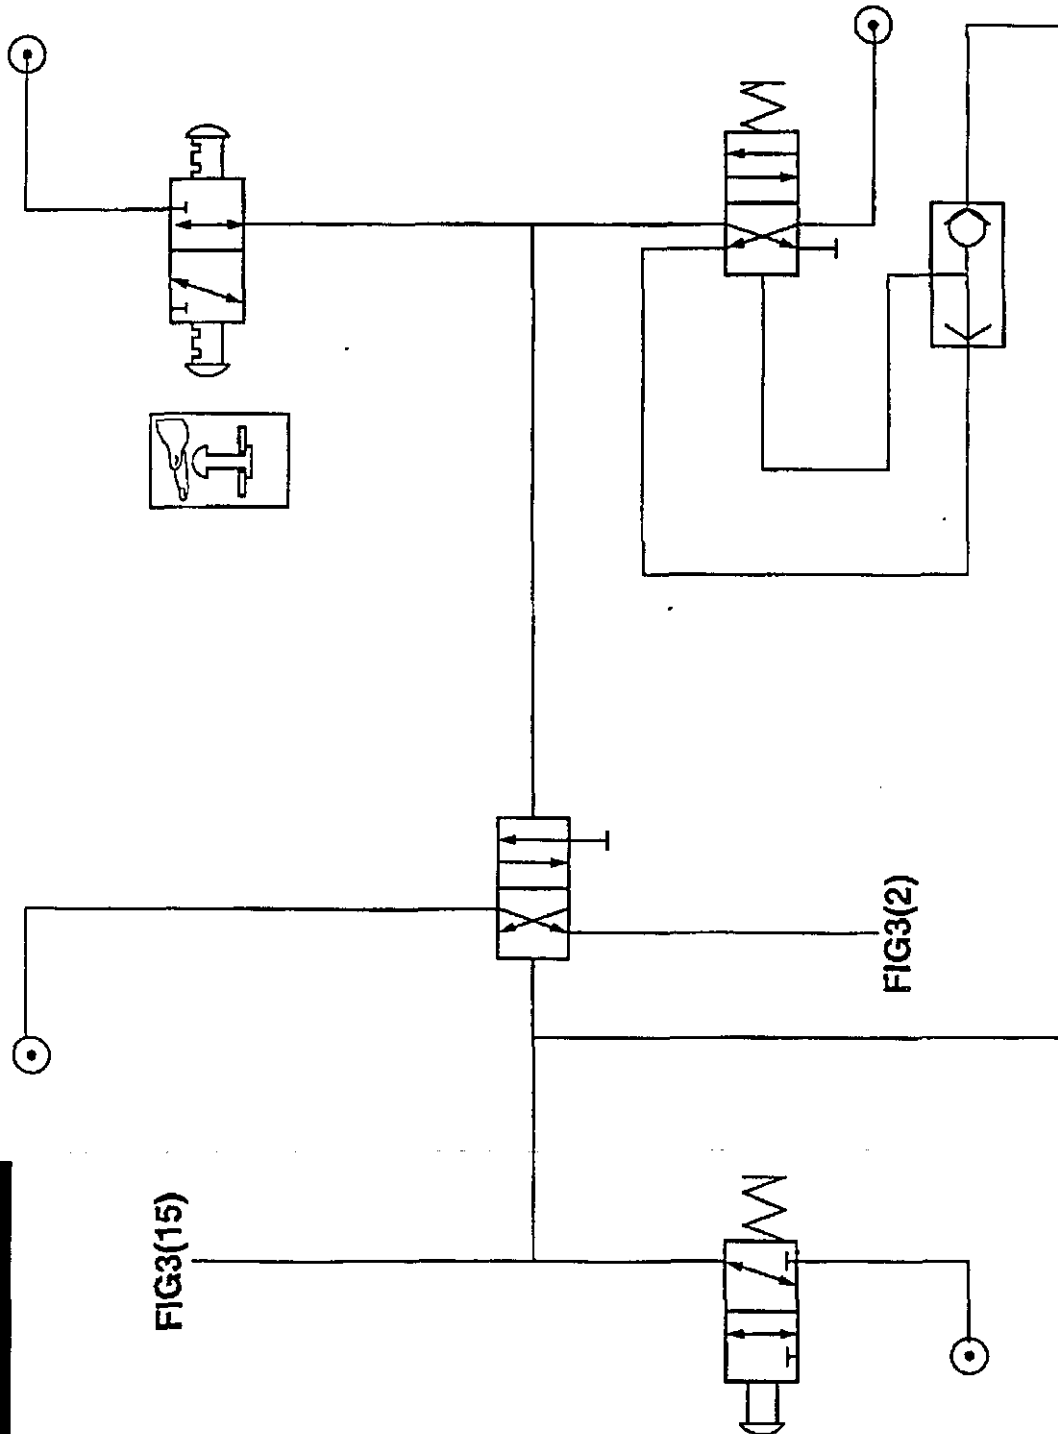

FIGURE 2
NOTE: Provision must be made for an Emergency Stop if the tool is used alone or built into a machine. A suitable circuit diagram for manufacturing an Emergency Stop is provided in Figure 2.
- (2) ENSURE THAT NO LOOSE ARTICLES OF CLOTHING, LOOSE HAIR OR CLEANING MATERIAL CAN BE CAUGHT BY THE MOVING PARTS OF THE TOOL.
- (3) ALWAYS ALLOW THE TOOL TO STOP BEFORE REMOVING THE WORK.
- (4) ENSURE THAT THE WORK PIECE IS SECURELY CLAMPED BEFORE COMMENCEMENT OF OPERATION.
- (5) CLEAR ALL LOOSE ITEMS FROM VICINITY.
- (6) ENSURE THAT THE TOOL IS SECURELY MOUNTED BEFORE COMMENCEMENT OF OPERATION.
- (7) ENSURE THAT BOTH GUARDS ARE FITTED.
- (8) BEWARE OF TOOL OUTPUT. THIS ADVANCES AND ROTATES.
- (9) EYE PROTECTION MUST BE WORN WHEN OPERATING THE TOOL.
- (10) DO NOT OPERATE THE TOOL IN EXPLOSIVE ATMOSPHERES.
- (11) WHEN MACHINING HAZARDOUS MATERIALS, PROVISION MUST BE MADE FOR DUST COLLECTION OR SUPPRESSION.
- (12) ENSURE THAT AN EMERGENCY STOP IS PROVIDED FOR THE TOOL, WHETHER USED ALONE OR BUILT INTO A MACHINE. A SUITABLE EMERGENCY STOP CIRCUIT IS DETAILED IN FIGURE 2.